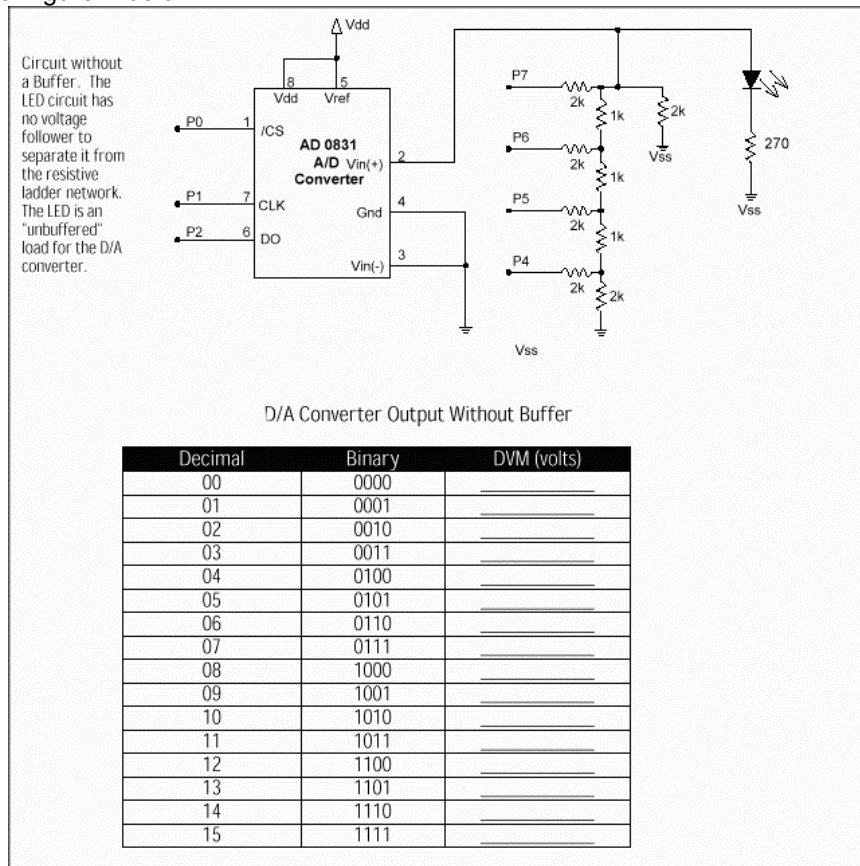
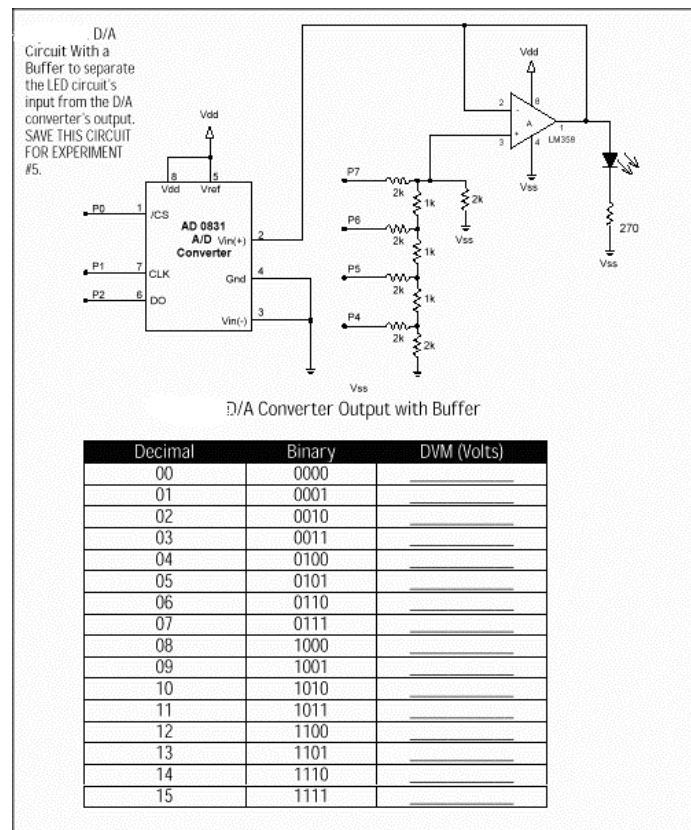

Figure 4 : R-2R ladder without Voltage Follower
Figure 5 : R-2R ladder with Voltage Follower
- Create an R-2R ladder network DAC (as discussed in class) and interface its output to a LED and the ADC as shown in the Figure 4 below.
- Note: Figure 4 depicts the implementation of a 4-bit R-2R ladder network where by outputting a series of LOWs (0) and HIGHs (1) on the output pins P4-P7 one can create the appropriate output voltage levels (Resolution=4bits). The LED serves as a load on the DAC circuitry while the ADC (set up in the previous stage) serves to measure the output voltage levels. In your system you will use an integrated R-2R network which takes the form of a 16 pin DIP chip (4116R-R2R-102). Set up the system so that pressing Button 3 increments the output of the DAC while Button 4 decrements the output of the DAC. Create a table and note down the values of the output voltage from this DAC for the range of 8-bit digital output values (from \$00 to \$FF in increments of 16). R-2R Network Specifications: <http://www.bourns.com/pdf/r2r.pdf>
- Augment the setup in Step 1 by adding the voltage follower circuit as shown in Figure 4 using one of the channels of the LM358 shown in Figure 5. Now create a similar calibration table to correlate the output digital levels to the actual values measured by the ADC. **(DEMO 3)**